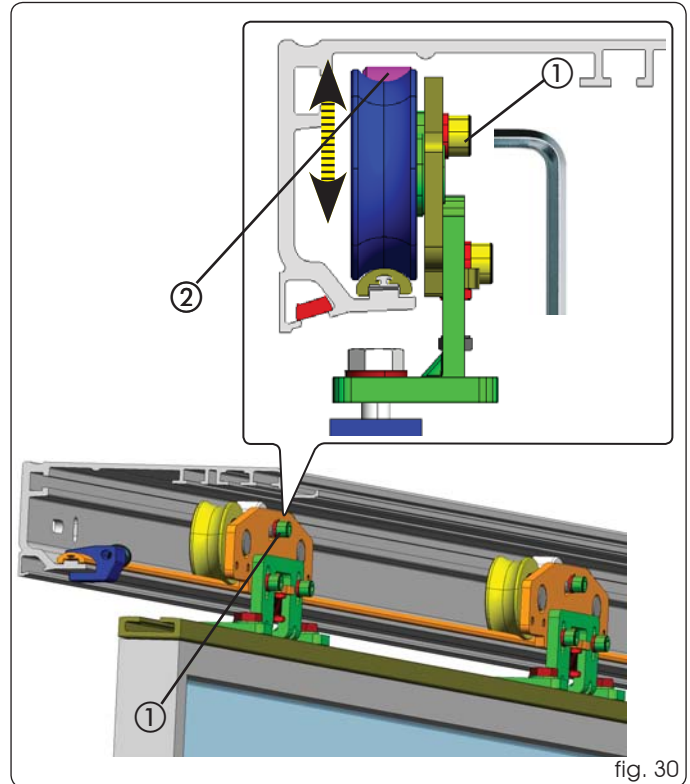

fig. 30
- Loosen the screw M6 (Fig.30 ref.1).
- Adjust the height of the wheel support, making it come as close as possible to the main profile without touching it (Fig.30 ref.2).
- When you have adjusted the wheel's height, tighten the screw M6 (Fig. 30 ref. ①).